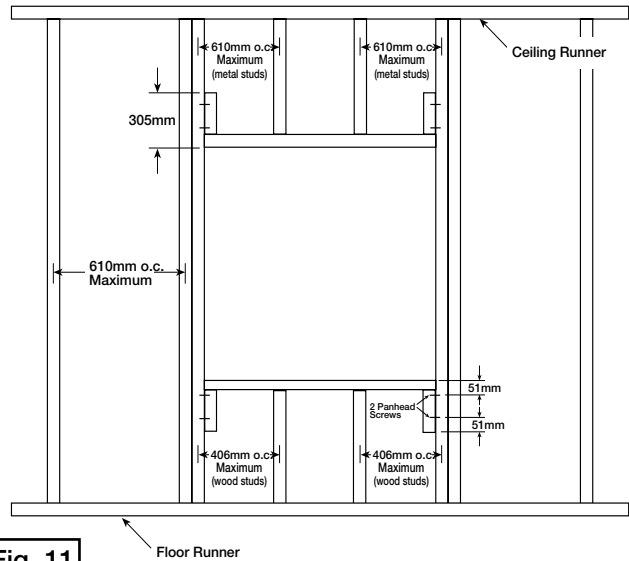

Fig. 11
- Gypsum wall board must be fastened 305mm on center to all stud and runner flanges surrounding opening. (see Fig. 11)